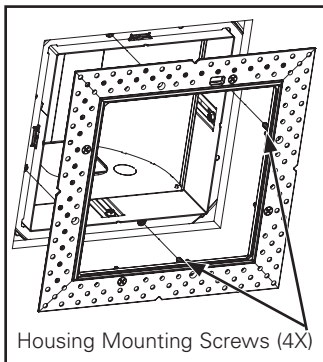

Figure 5.
4. Attach the rimless adapter to the housing using the four housing mounting screws (Figure 5.). Continue to tighten the housing mounting screws until the perforated frame of the rimless adapter is loosely touching the ceiling surface. DO NOT completely sandwich the ceiling at this time.